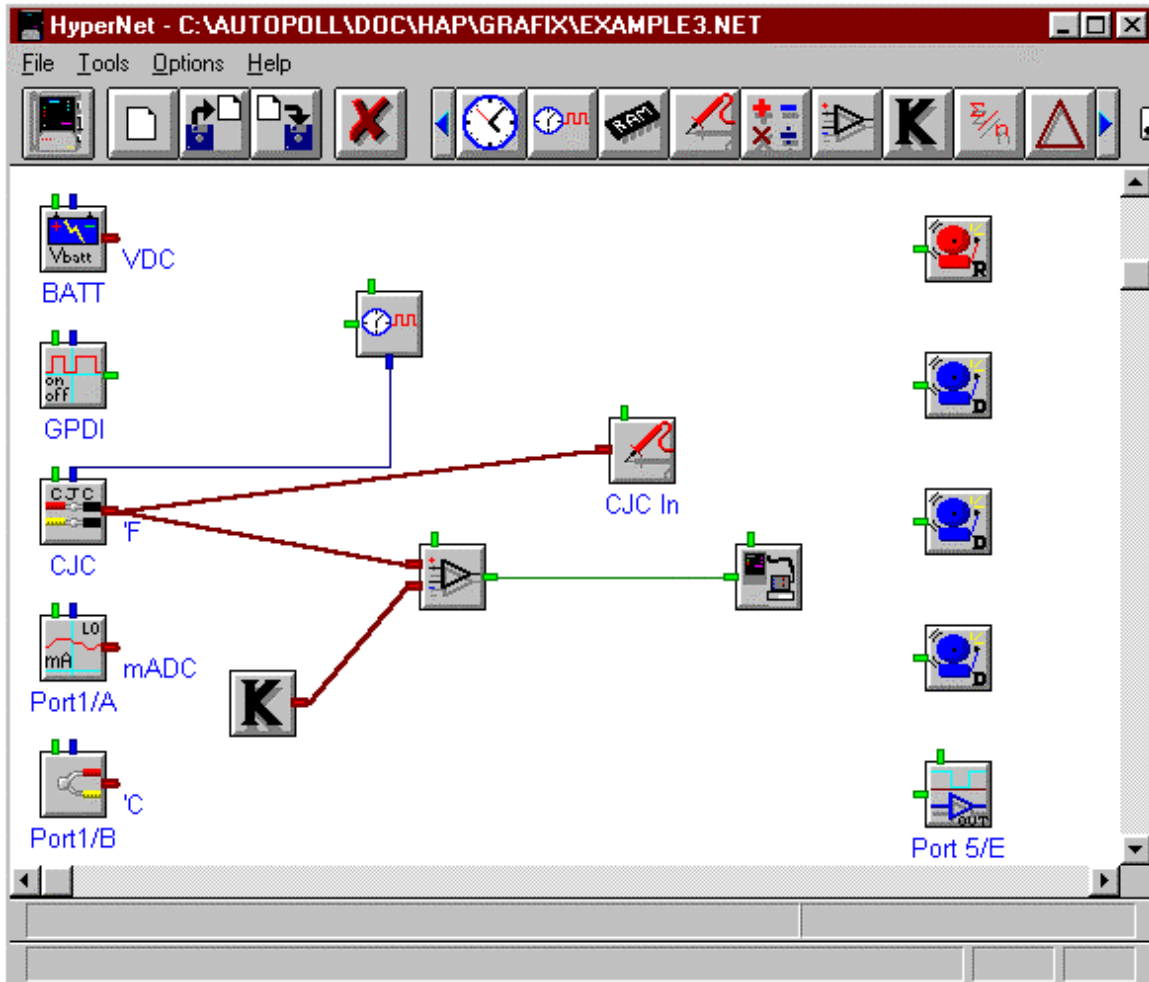

Figure 5.3.1a HyperWare Net Program, Example 5.3
1) Create the net illustrated below in figure 5.3.1a.
- 4) Select the net file illustrated in figure 5.3.1a.